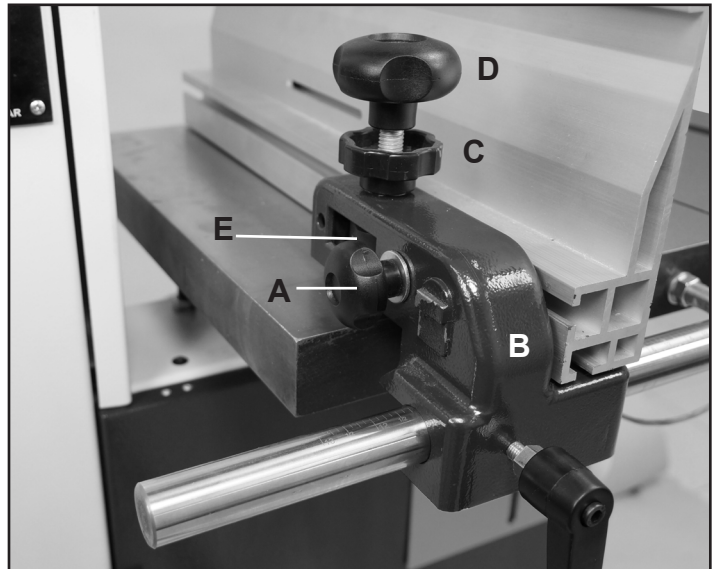

FIGURE 32
1. Loosen the side Handle (#7E, Fig. 32, A) which holds the rip fence against the Fence Carrier (#9E, B).
2. Loosen the Locking Knob (#2E, Fig. 32, C).